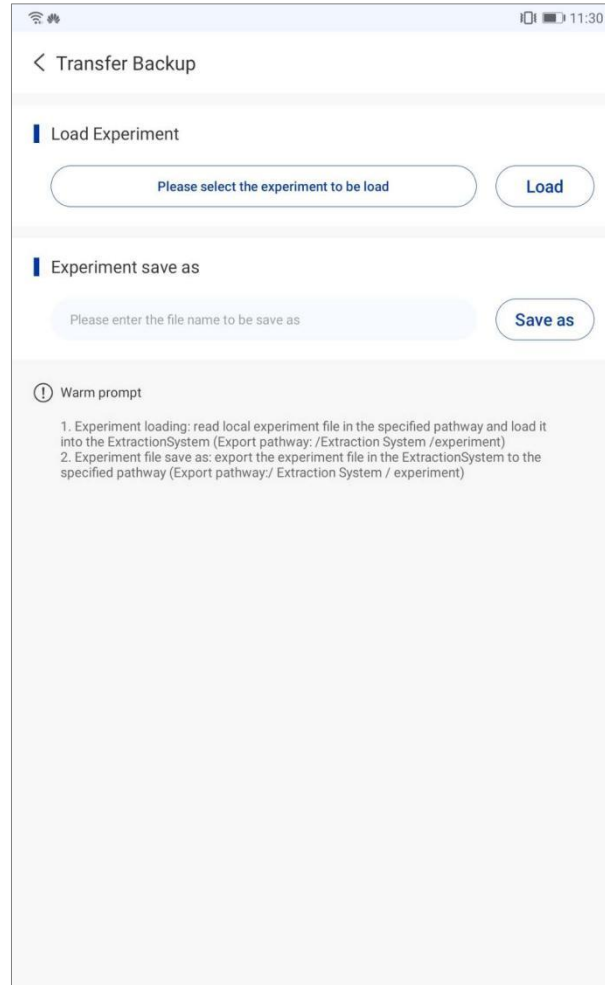

Figure 5-15. Setting Interface –Transfer Backup
- 3. Transfer Backup:** intended to transfer and back up the experiments between application software and tablet PC, as shown in figure 5-15.